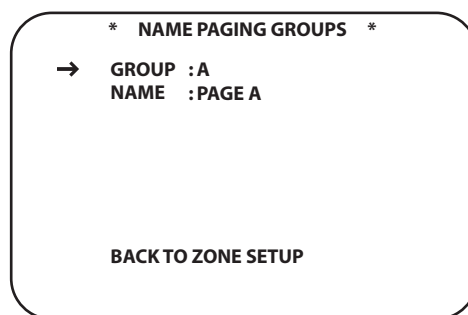

Figure 61.
1. From ZONE SETUP PAGE 1, with the cursor next to NAME PAGING GROUPS, press the **Set Button 18**. The NAME PAGING GROUPS screen will appear (Figure 61).